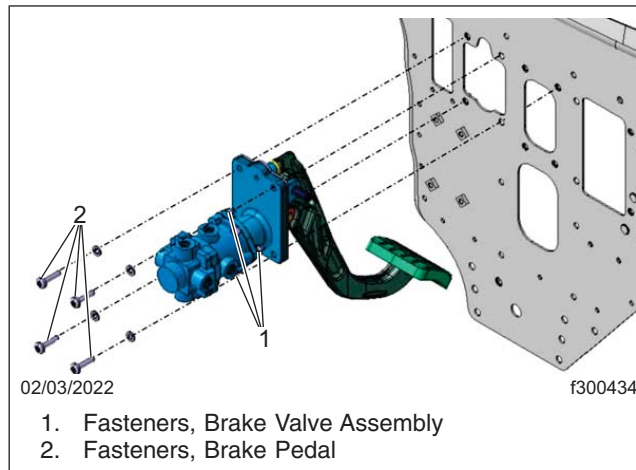

Fig. 11, Fasteners, Brake Valve Mounting
9. Remove the four brake valve mounting fasteners that attach the brake valve to the mounting plate, and push the brake valve to the side. See Fig. 11.
10. Remove the four bolts that attach the brake pedal mounting plate to the firewall, then pull the mounting plate from the outside, and remove it from the vehicle. See Fig. 11.
2. Position the brake pedal assembly on the firewall, then install the four fasteners that attach the brake pedal mounting plate to the firewall. Tighten the fasteners 12 lbf·ft (16 N·m). See Fig. 11.